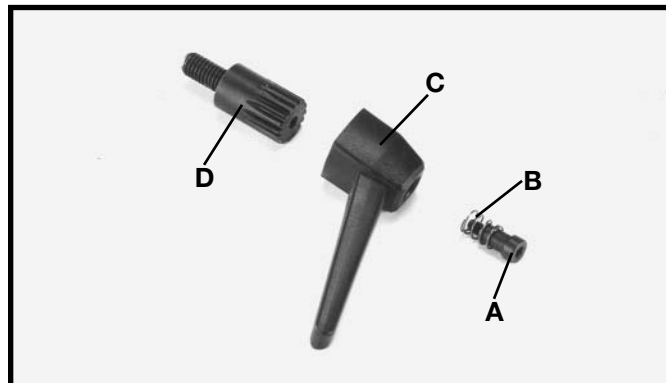

Fig. 8
1. Locate handle assembly and remove screw (A) Fig. 8, and spring (B) from handle (C). Separate handle (C) from stud (D).